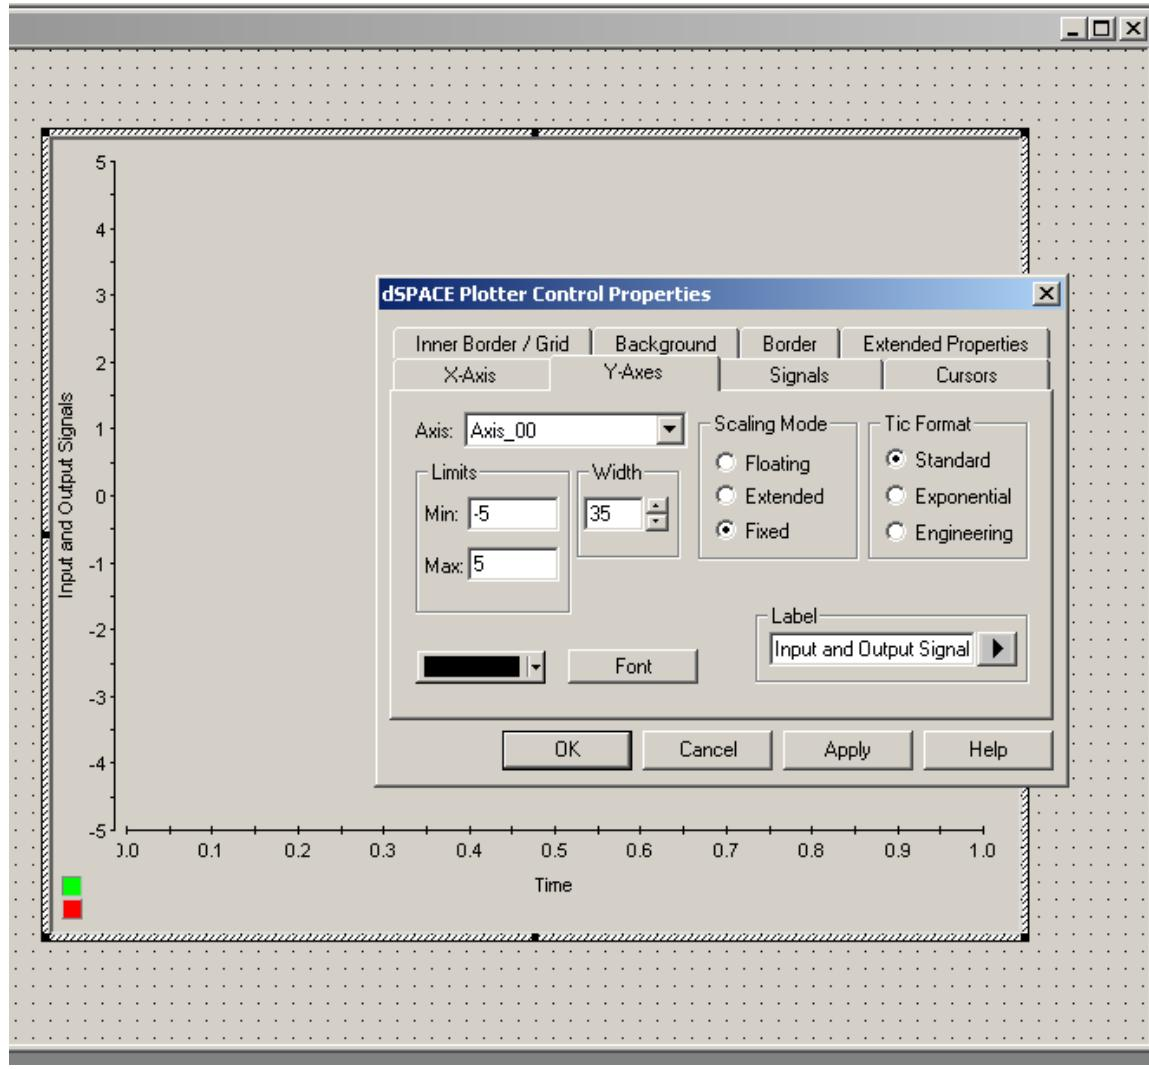

Figure 2.15: Plotter Setting Window
5. Set Y-limits, Width, Scaling Mode as shown in Fig. 2.15